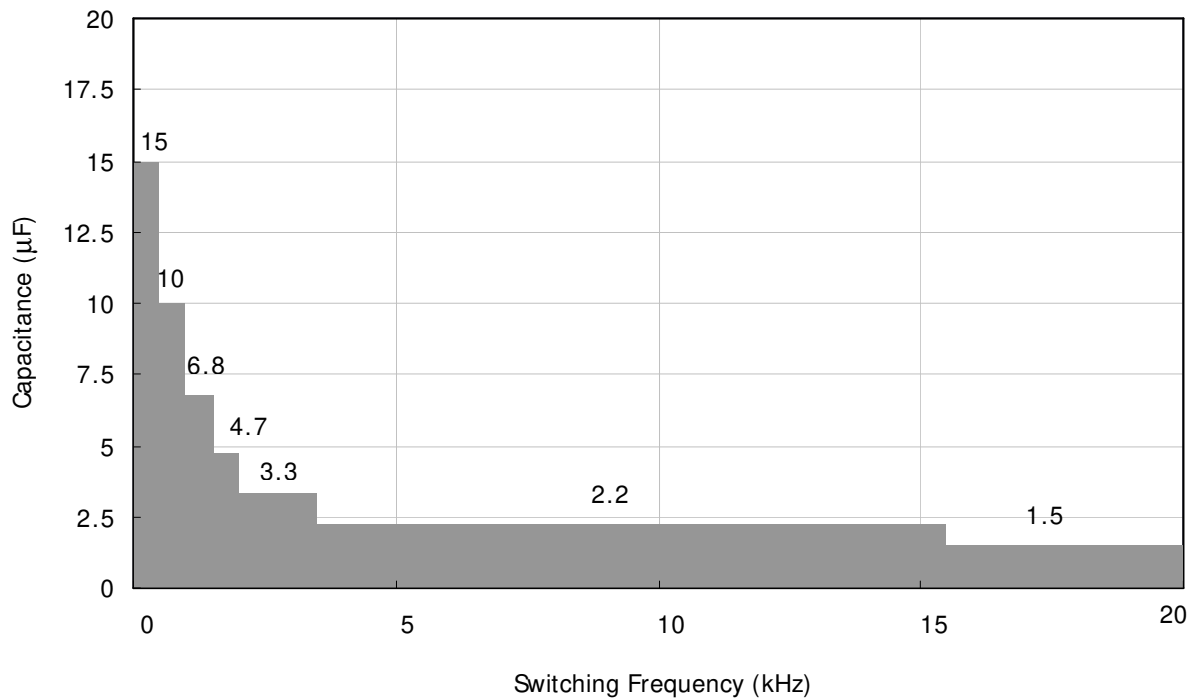

Figure 8: Recommended minimum bootstrap capacitor value vs switching frequency
4. Value of the bootstrap capacitors depends upon the switching frequency. Their selection should be made based on IR design tip DN 98-2a or Figure 8.